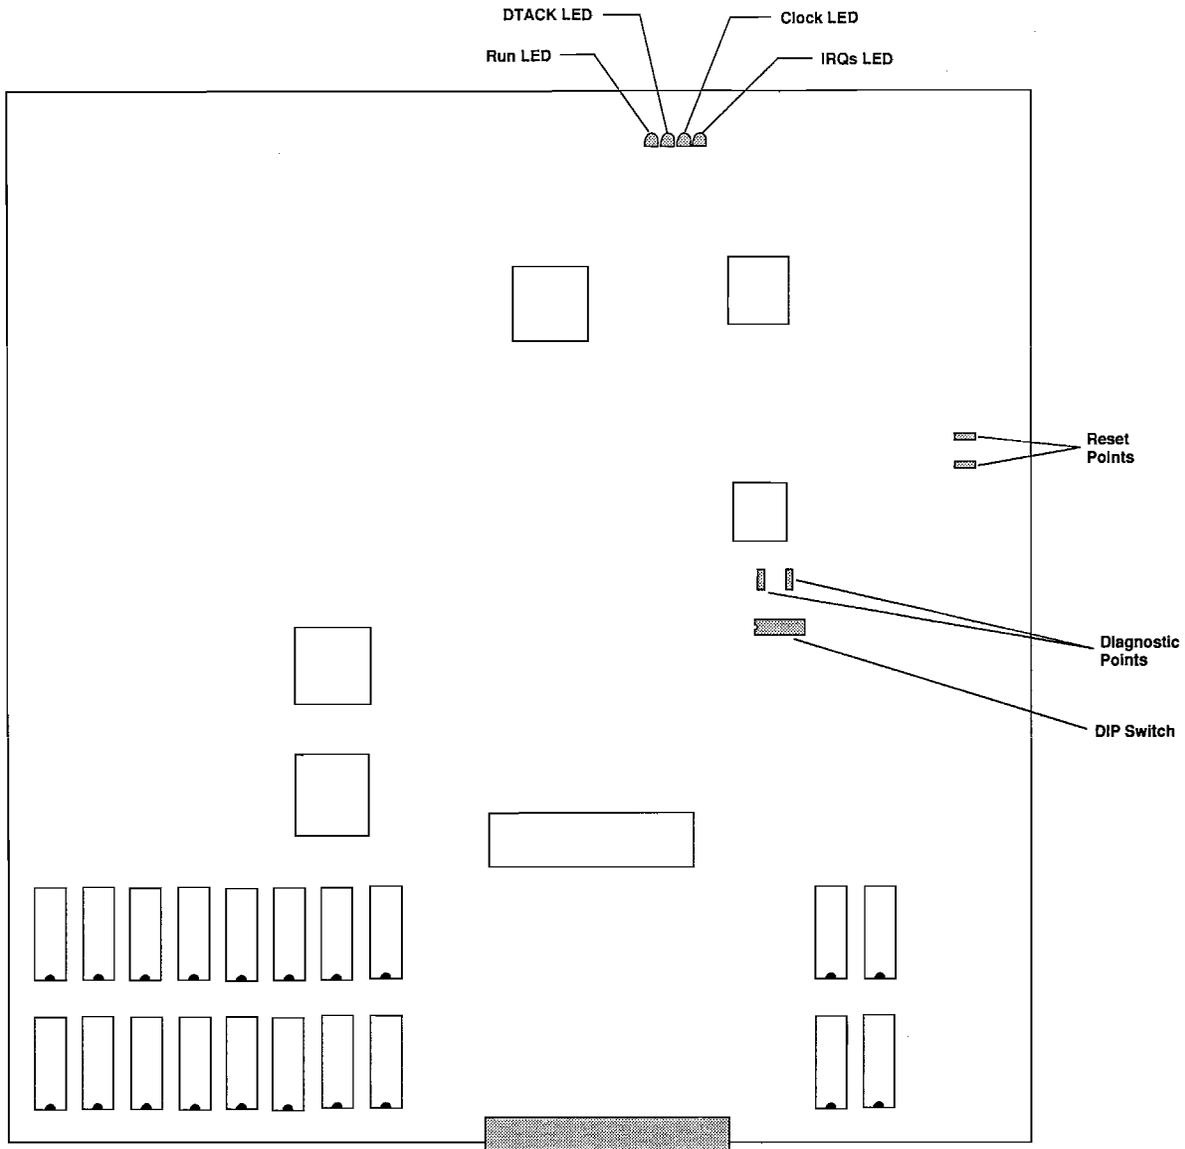

Figure 2-28 DIP Switch and LED Locations on the Main PCB
Figure 2-28 shows the location of the LEDs on the main PCB. Table 2-7 shows the the possible status of the LEDs, with an explanation of what they indicate.
1. Put a jumper across the DIAGN test points, shown on Figure 2-28.
4. Put a jumper momentarily across the RESET test points, shown in Figure 2-28.
2. Put a jumper momentarily across the RESET test points, shown in Figure 2-28.